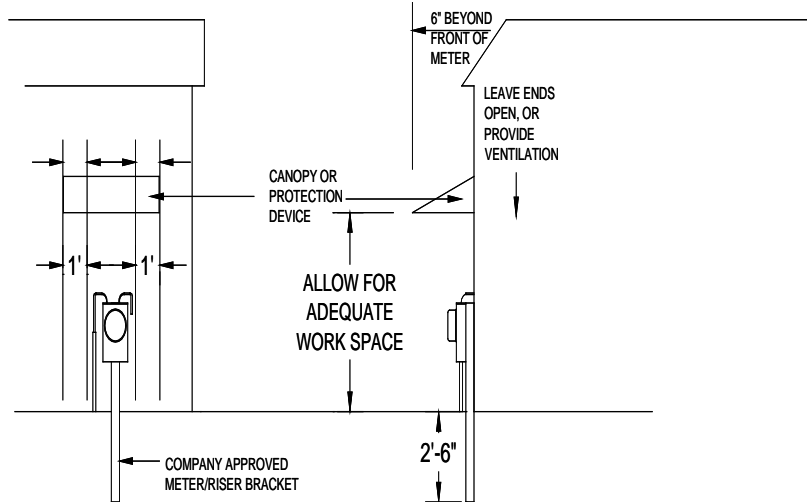

Figure 8.5.1 - Canopy or Protection Device
- Existing Meter Sets: In areas of deep snow (in excess of four feet) and/or subject to falling snow or ice that could damage the meter set, the meter set should be relocated or an engineered canopy or protection device should be installed to protect the meter set (see Figure 8.5.1).¹⁰ The engineered canopy or protection device shall allow for adequate workspace to work on the meter set. Service regulators should not be installed where conditions are likely to allow ice to accumulate around the vent. However, if conditions are such that water could repeatedly moisten an outside service regulator and eventually freeze around the vent, a vent ice guard shall be installed. Situations where this could occur are: